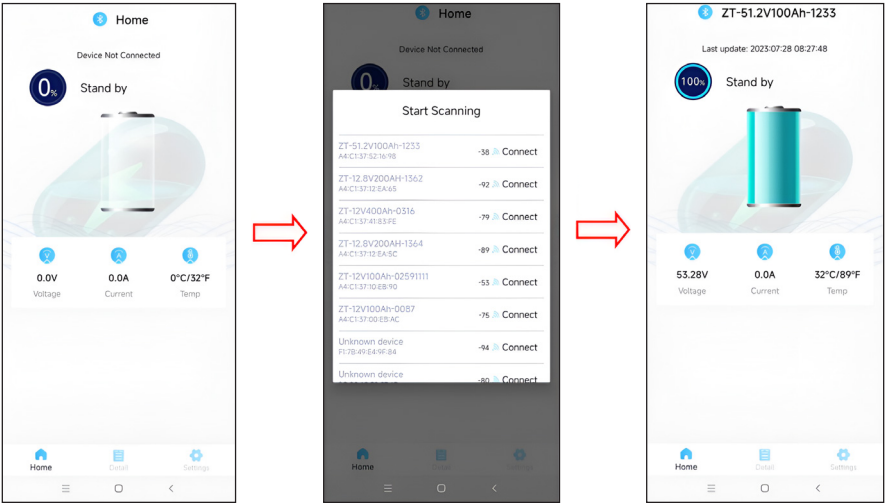

Figure 8: Connecting HUSKY 2 Batteries & Monitoring App
3. Connect the HUSKY 2 battery and the BatteryMonitorBL app using Bluetooth. Search for the batteries and connect them according to the battery's Bluetooth label (located on the left side of the battery). The app will then display the battery's information, as shown in Figure 8 on the following page.